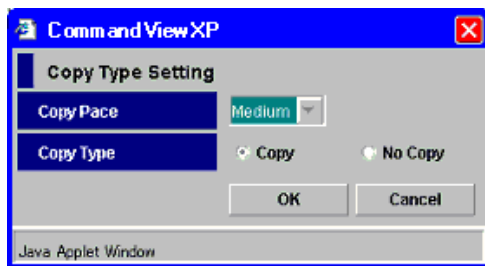

Figure 382 Copy Type Setting pane
9. Click **Apply** in the Flex Copy pane. The Copy Type Setting pane (see Figure 382 on page 747) appears.